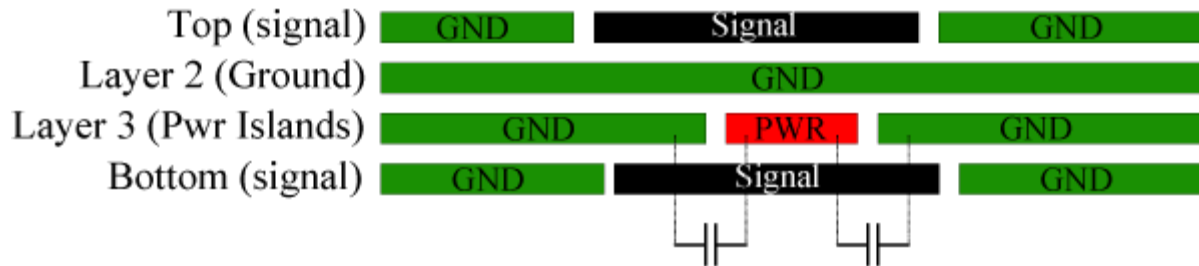

Figure 5-2: Layer stackup Power and Ground Decoupling
- When signal traces are re-referenced to power island planes, decoupling capacitors (0.01uF ceramic) are required between the ground plane and power plane as shown below in Figure 5-2